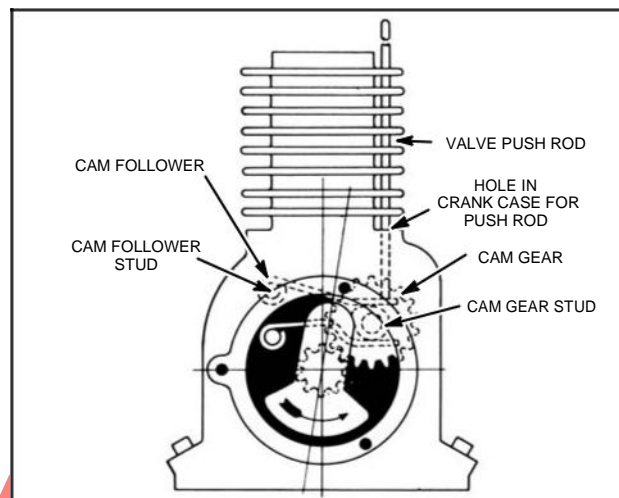

Fig. 534 – VALVE TIMING
To properly time the valves on these models, assemble cam followers in place, insert the exhaust valve push rod through the small hole in top of the crankcase so that the flat end of rod rest on the upper cam follower, Fig. 534. Then place the cam gear on its stud so that the cam lobe is toward the crankcase wall between the two (2) cam followers.